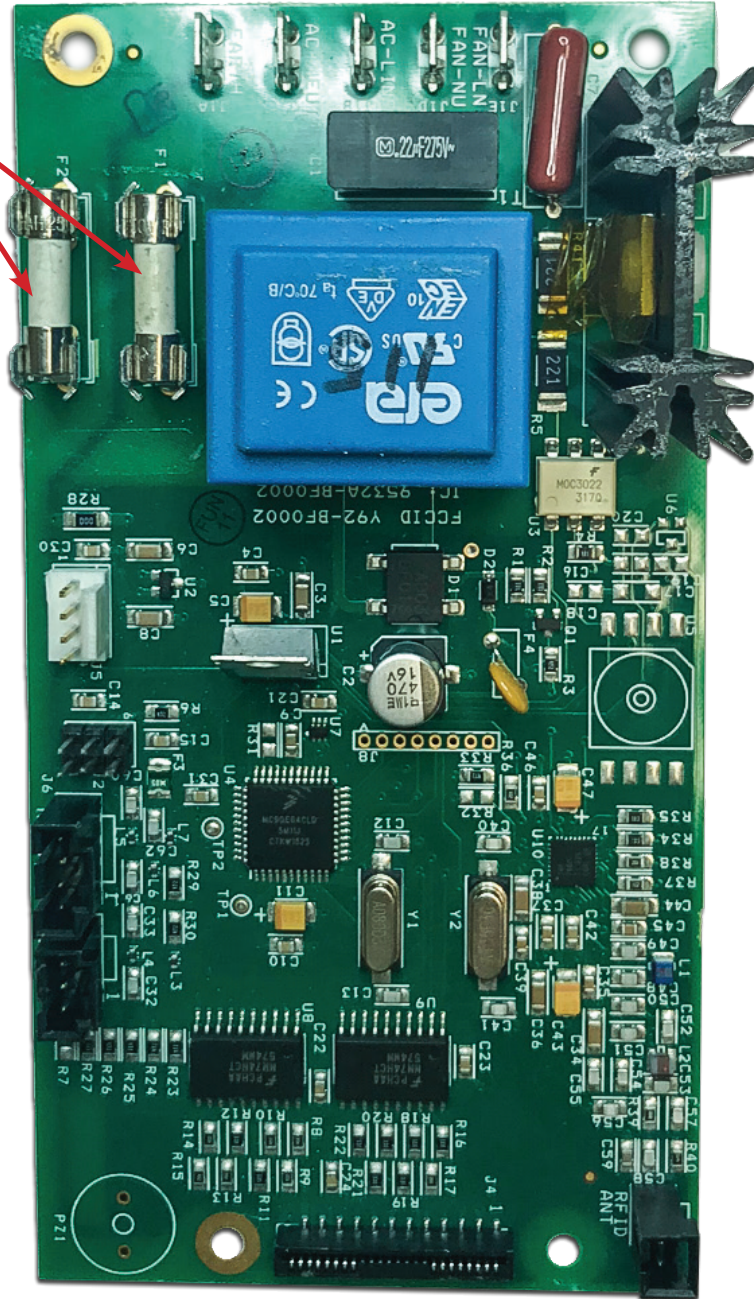

Figure 6-1
**NOTE:** Two (2) 10A fuses for 100/120 ViroVac® *Surgical Smoke Evacuators* or two (2) 8A fuses for 220/240 ViroVac® *Surgical Smoke Evacuators* are located on the circuit board (PCB) (**Figure 6-1**) on page 6-4 within the housing of the system. The fuses electrically protect both the ViroVac® *Surgical Smoke Evacuator* and the operator from damage or injury. If the ViroVac® *Surgical Smoke Evacuator* is overheating or if there is an electrical surge, fuse(s) will break and the ViroVac® *Surgical Smoke Evacuator* will not operate.